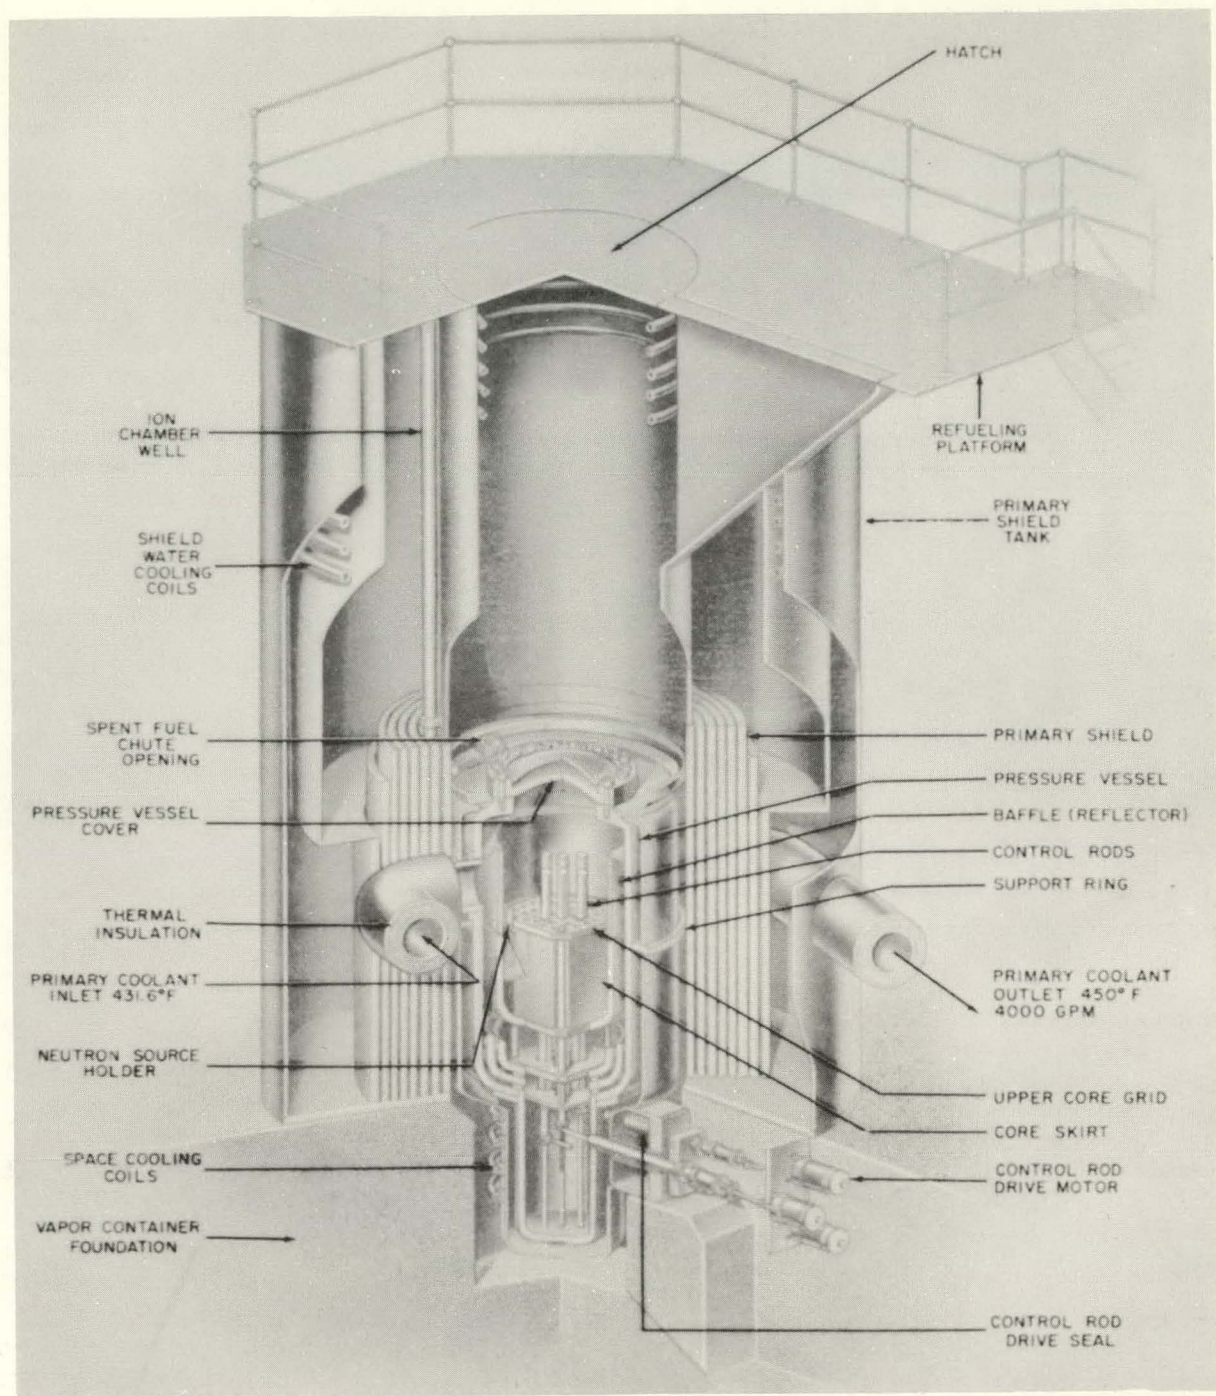

Figure 2-1. Reactor and Primary Shield
General Description (Figure 2-1). The APPR-1 reactor comprises a core of fuel elements through which primary system water flows to be heated. Because of the high primary system water pressure, the reactor core is housed in a steel pressure vessel which is surrounded by shielding. Control rods operate through voids in the reactor core and are driven and positioned by a control rod drive system which operates through special seals near the bottom of the pressure vessel. The amount of effective fuel in the reactor and therefore the mean temperature of the reactor (period at low temperatures) is controlled by regulating the control rods.
**Pressure Vessel (Figure 2-1).** The reactor core is contained within a cylindrical steel pressure vessel that has a 48-inch inside diameter, is 2-3/4 inches thick, and 64-1/8 inches long. A standard ellipsoidal head is provided at the bottom of the cylinder. A ring forging to support the vessel cover is provided at the top. All joints are welded and stress relieved. Inside surfaces in contact with primary water are clad or overlaid with 0.25-inch-thick stainless steel.
**Primary Shield (Figure 2-1).** The primary shield is a water-filled steel structure which surrounds the pressure vessel. The shield is 46 inches thick and consists of alternate layers of 2 inches of steel and 1 inch of water. The inner wall of the shield is a 2-inch thick steel cylinder. Above the vessel, mounted on the inner shield ring, is a 12-foot-deep tank which is kept filled with water. Mounted on the inlet and outlet pipes are 7-inch-thick steel rings to prevent radiation streaming through the pipe penetrations of the shield.